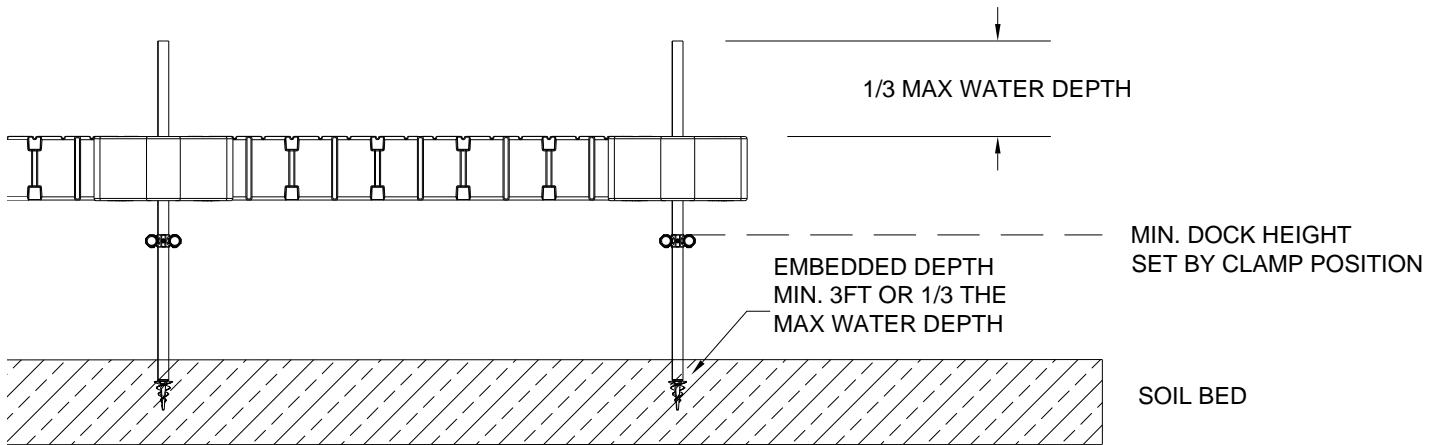

Figure 10
2. Referring back to section 1 (site planning) and (figure 10), the post clamps will need to be slid over the vertical anchorage pipe to their proper positions. This position will represent the dock's lowest dock section height while suspended. Level both clamps and tighten set screws, once the horizontal supporting pipe is aligned through both clamps. It is important that all clamps are level and set at the height below the water line. Never swim under the dock sections or EZ Trail system. The position of the clamps will need to be positioned by reaching into the water. As the water levels drop, the clamps can be readjusted.
2. Referring back to section 1 (site planning) and (figure 10), the post clamps will need to be slid over the vertical anchorage pipe to their proper positions. The dock sections will need to be hoisted or lifted above the determined height. Hoisting can be done by hooking a come-a-long at the top of the pipe and around the horizontal pipe(s) and lifting the dock section up the anchorage pipe.